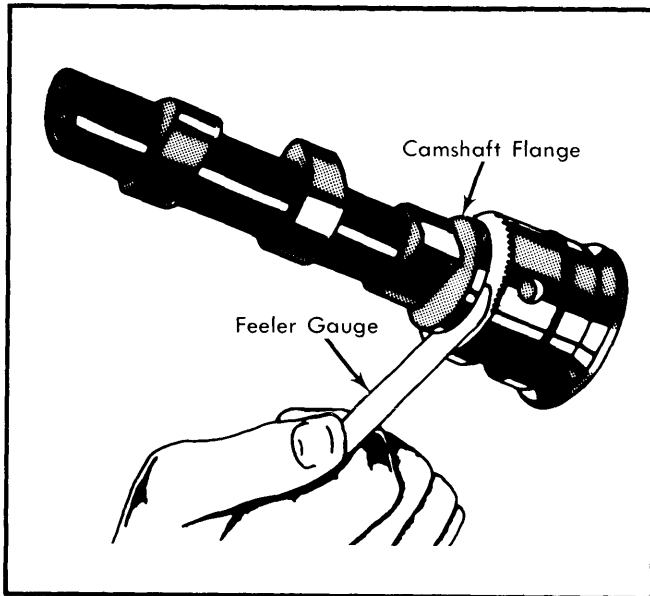

Fig. 8 Measuring Camshaft End Play
- 2) Bearing on No. 1 journal controls camshaft end play. Width of journal is 1.3385-1.3401" (34.0-34.03 mm). Place bearing on camshaft and install retaining ring. Using a feeler gauge, measure clearance between camshaft flange and bearing. See Fig. 8. Lap bearing to proper fit. The following table lists camshaft bearing journal diameters for standard and undersize bearings: